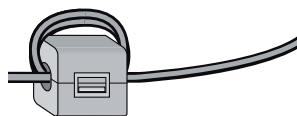

Fig. 9
- Close the ferrite sleeves (Fig. 9).